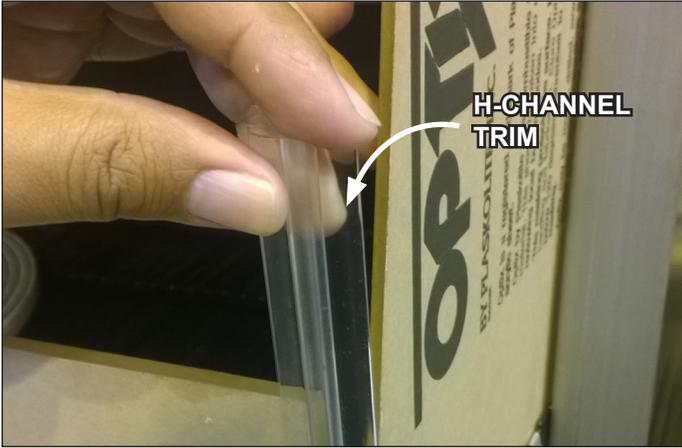

Fig. 10 H-channel trim joins front sill glass pieces
8. Install the H-channel trim to join the acrylic front sill glass pieces (if present) of adjoining cases (Fig. 10).